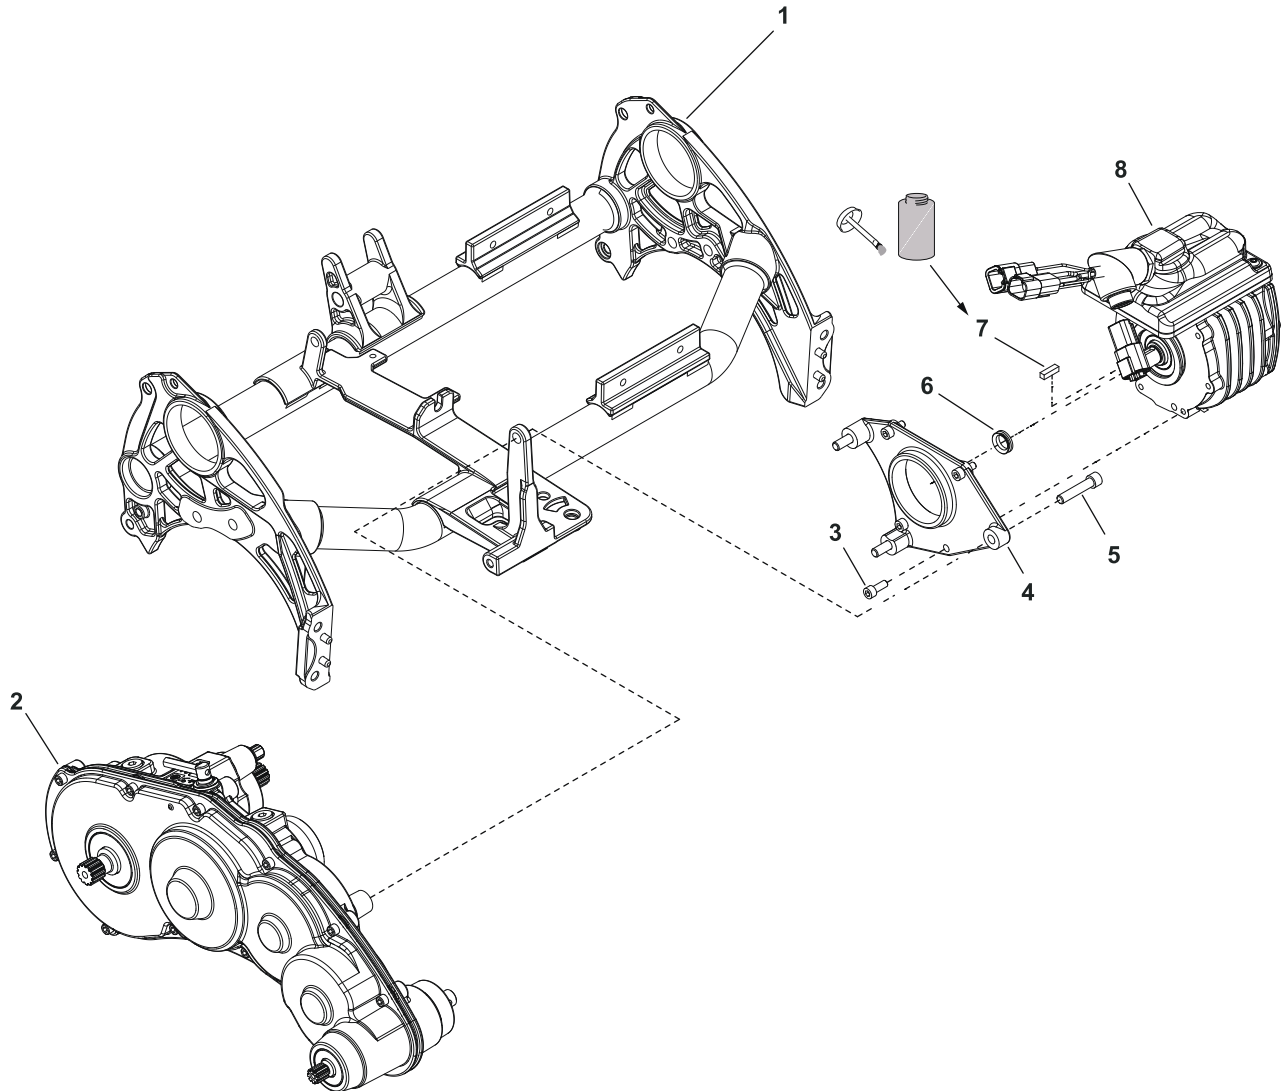

Figure 66
5. Remove the 4 socket-head screws (item 3 in Figure 66) that secure the electric motor to the motor adaptor (4).
7. Remove the key (7) from the motor shaft.
8. Remove and discard the closed cell foam seal (item 6 in Figure 66) from the motor shaft.